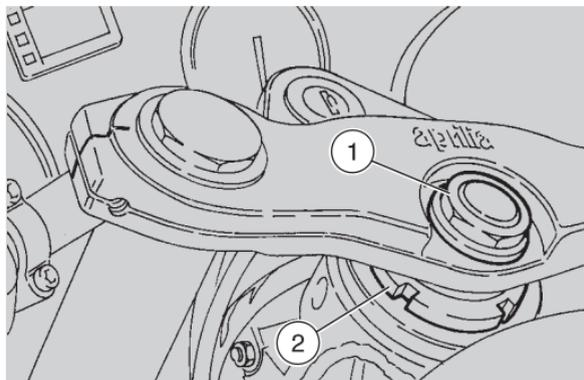

Fig. 43
- if the slack must be adjusted, loosen the lock nut (1 - Fig. 43) and act with the apposite key on the adjusting nut (2-Fig. 43), in order to take up the slack;
- tighten the lock nut firmly (1-Fig. 43).